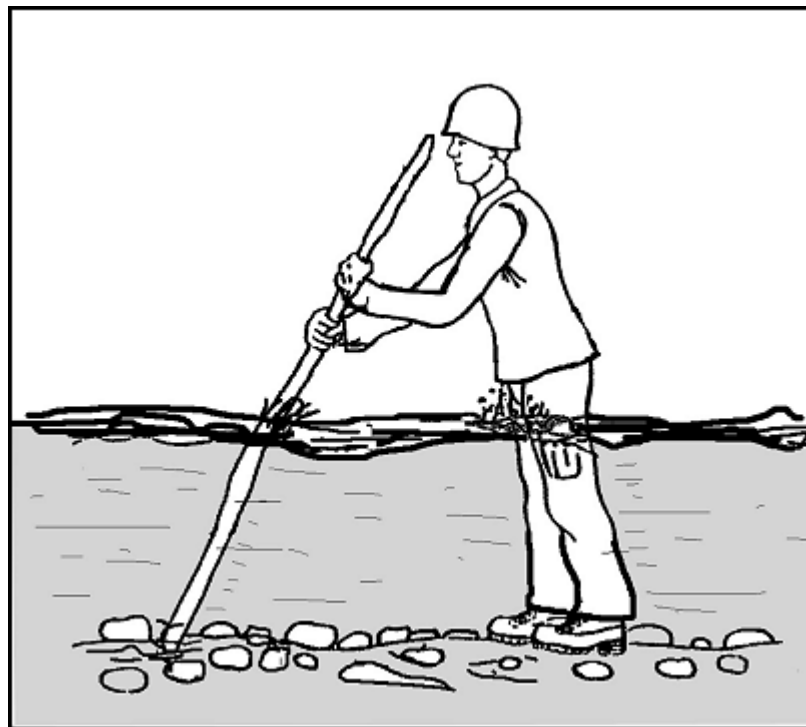

Figure 9-2. Individual crossing with staff.
- e. To increase balance, and if available, a long ice ax, sturdy tree limb, or other staff can be used to give the individual a third point of contact (Figure 9-2). The staff should be used on the upstream side of the individual and slightly leaned upon for support. The staff should be moved first, then the feet shuffled forward to it. This allows two points of contact to be maintained with the streambed at all times. The individual still moves at a downstream angle with the downstream foot in the lead.